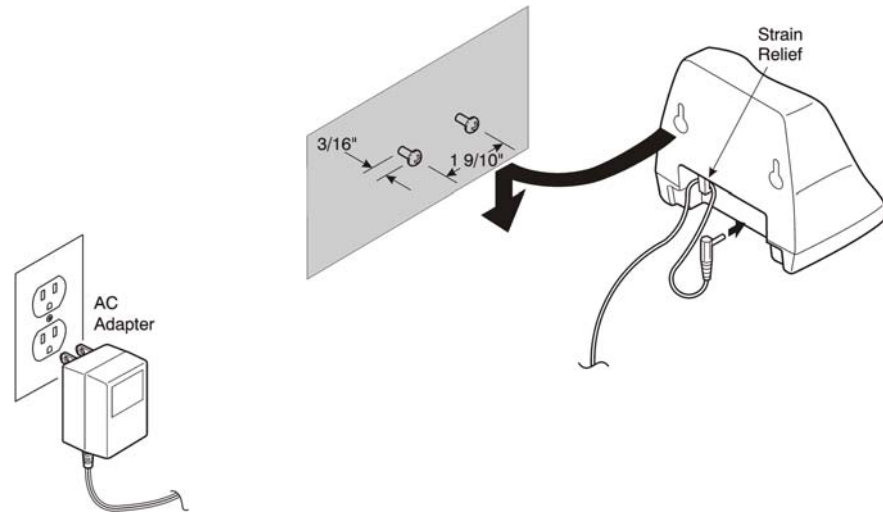

Figure 5-178 Placing the Charging Unit on the Wall
4. Plug the AC adapter into a standard 230 Vac wall outlet. Refer to Figure 5-178 Placing the Charging Unit on the Wall.